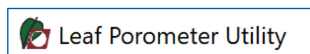

Figure 18 Leaf Porometer Utility application
3. Open Leaf Porometer Utility (Figure 18).